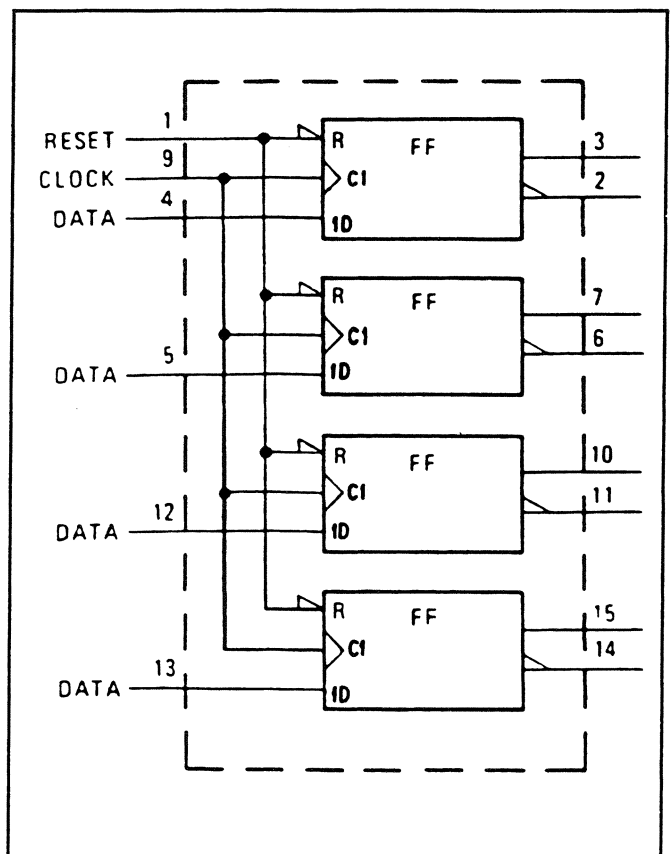

**Figure A-4. Contiguous Blocks**
**Contiguous Blocks.** Two symbols may share a common boundary parallel or perpendicular to the direction of signal flow. Note that in the example shown in Figure A-4 there is generally no logic connection across a horizontal line, but